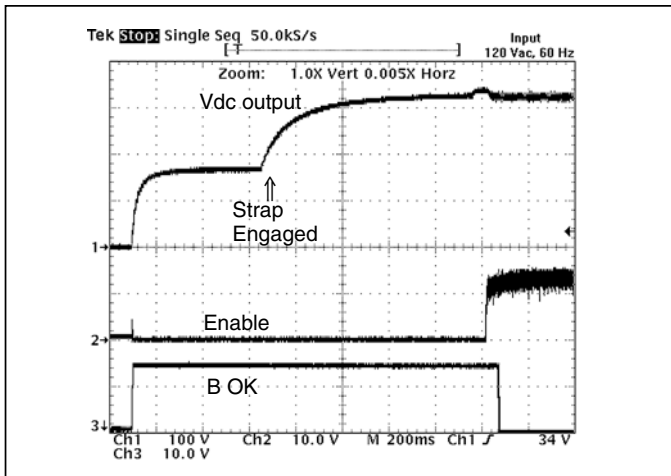
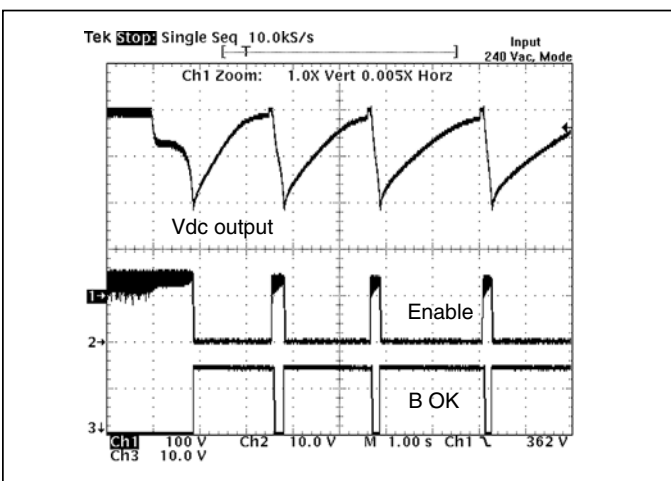

Figure 3 — Start-up at 120 Vac input
Figure 7 — Output overvoltage protection 240 Vac range
■ INPUT SPECIFICATIONS (see Figure 3 thru Figure 7 for operating characteristics)